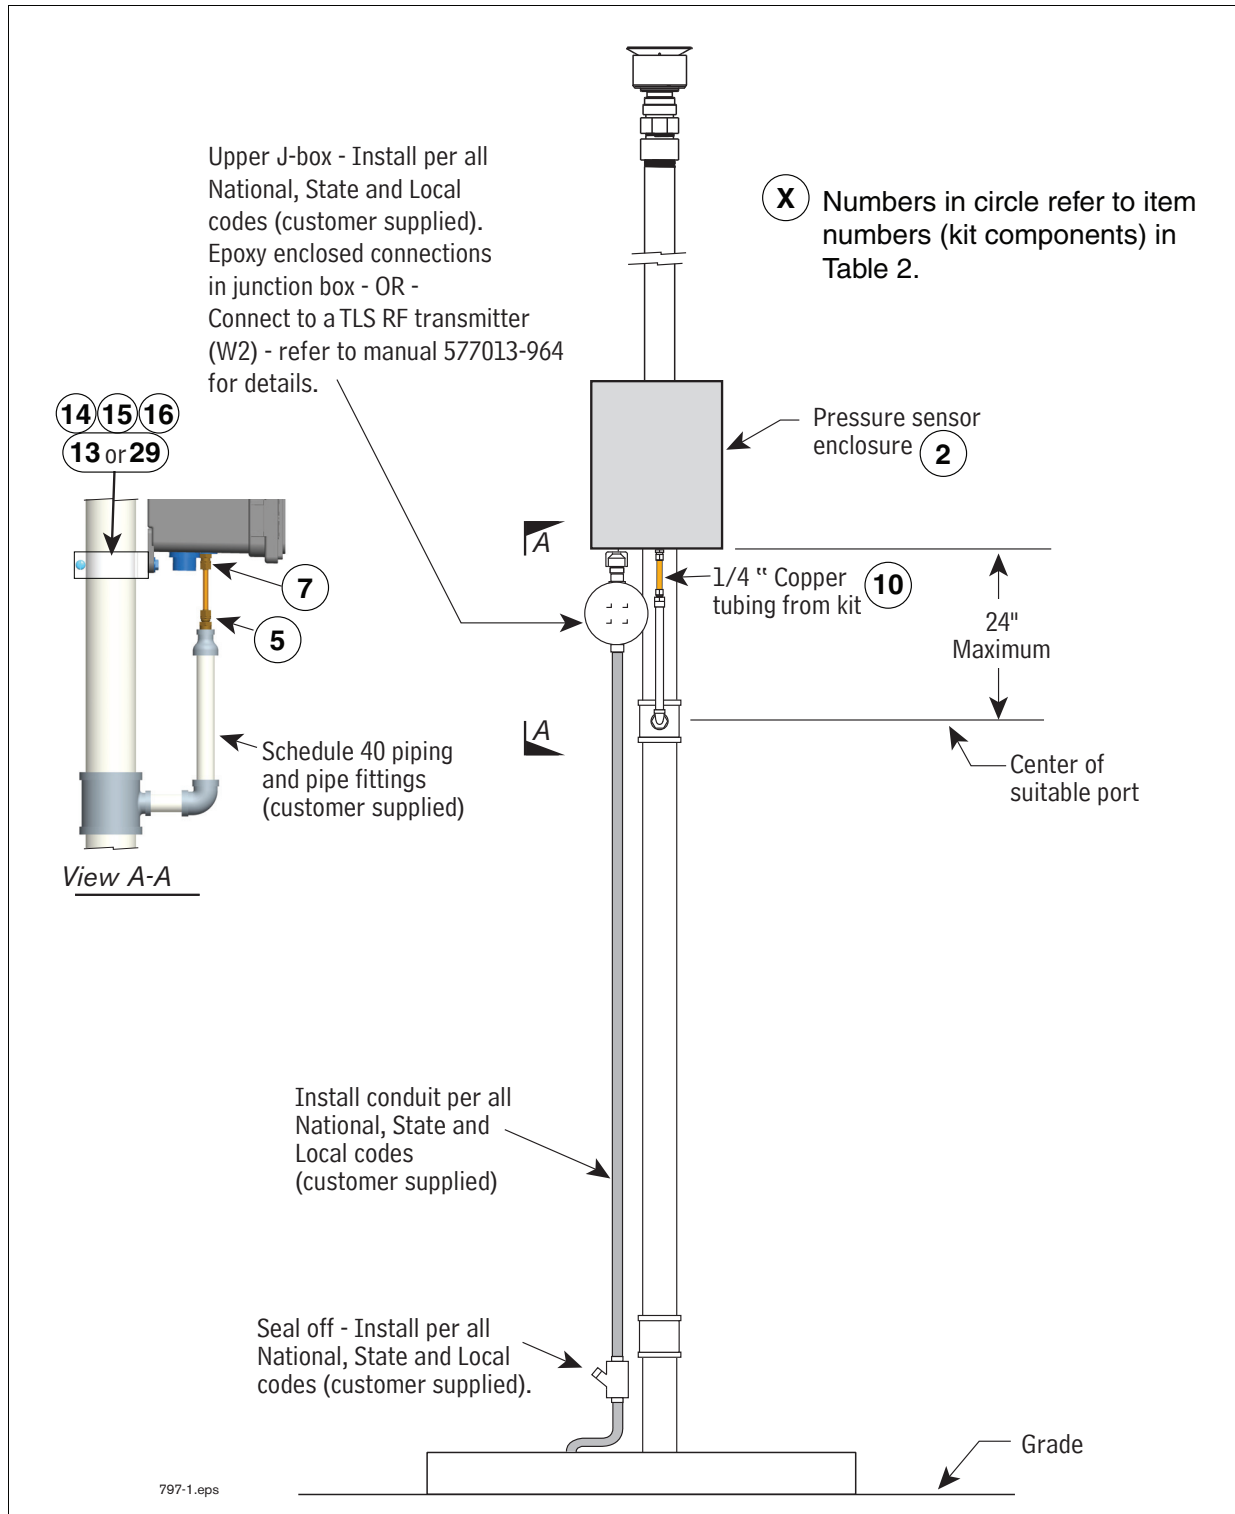

Figure 6. Locating Pressure Sensor Enclosure in Vapor Vent Stack
3. Locate a suitable port in an existing Schedule 40 piping fitting (tee, cross, etc.) or plumb a suitable Schedule 40 pipe fitting (tee, cross, etc.) into the vapor vent stack line (maximum length of copper tubing limited by dimension in Figure 6).
17. Mount the plastic enclosure onto the vapor vent stack or suitable rigid structure ABOVE the vapor vent stack port using two conduit clamps (for 2" or 3" pipe), bolts, nuts, and washers included, or use other customer supplied suitable mounting hardware (Example: Unistrut®). Leave the mounting hardware somewhat loose for later enclosure height adjustment (see Figure 6).
19. Install one 68CA-4-4 male connector (item 1 in Table 3) onto the top of the new pipe (see View A-A, Figure 6).
20. Measure, fabricate, and install 1/4" OD copper tubing (item 6 in Table 3) between the bulkhead union and the male connector. Adjust the enclosure vertically on vent pipe to make sure the copper tube is fully inserted into the bulk head union and male connector.
24. When direct wiring to a TLS console, install 1/2" electrical conduit from the conduit hub in the bottom of the enclosure to the customer supplied weather-proof junction box (see Figure 6). For wireless installations, using the TLS RF, Steps 23 - 27 are not required.
25. Route the cable from the pressure sensor to the junction box under the enclosure. Observing polarity, connect the sensor wiring to the field wiring from console and cap with wire nuts (see Figure 6).